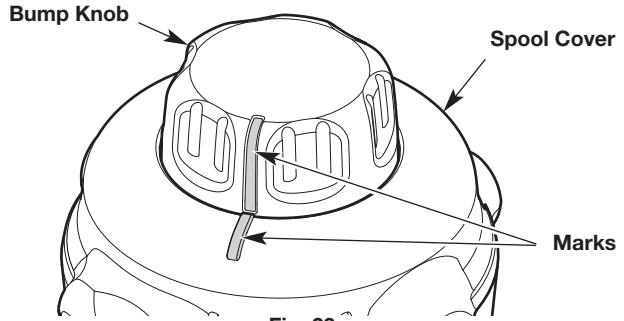

Fig. 23
3. Turn the bump knob to align the mark on the bump knob with the mark on the spool cover (Fig. 23).